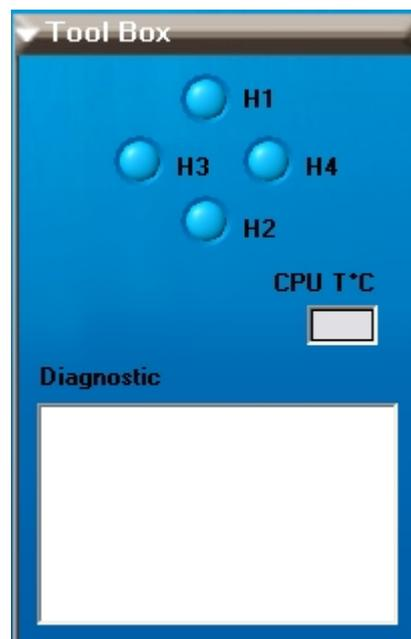

Figure 49 - Acoustic Array Tool Box
- Acoustic Array Status Tool Box: it shows the status of the four hydrophones (see Figure 49). A red status means that the hydrophone did not receive an expected signal. If one of the hydro status stays red during several interrogations the hydrophone might be damaged (contact iXBlue for support and assistance). The **CPU temperature** is the temperature of the electronics contained in GAPS. It is the temperature of the warmer electronic component (CPU).